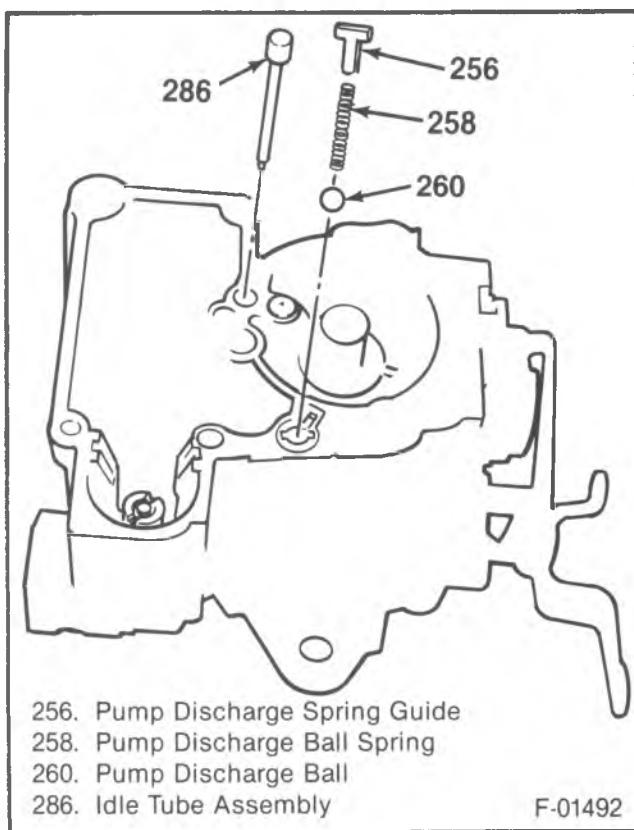

Figure 24 - Idle Tube and Pump Discharge Ball
- ↔ Remove or Disconnect (Figure 24)**
- Idle tube assembly (286).
1. Pump discharge spring guide (256).
2. Pump discharge ball spring (258), and ball (260).